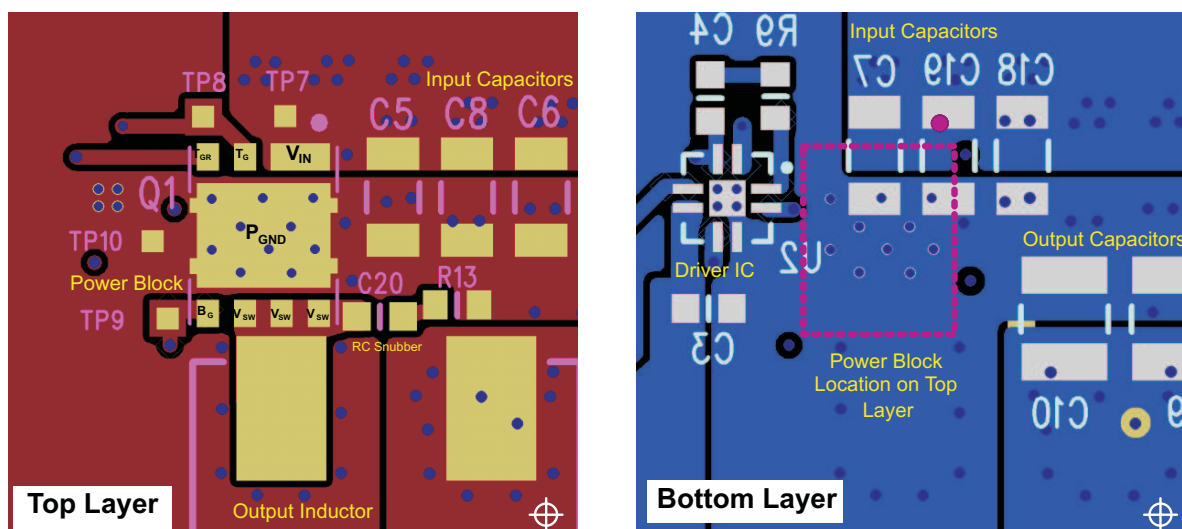

Figure 34. Recommended PCB Layout (Top Down View)
- The placement of the input capacitors relative to the power block's VIN and PGND pins should have the highest priority during the component placement routine. It is critical to minimize these node lengths. As such, ceramic input capacitors need to be placed as close as possible to the VIN and PGND pins (see Figure 34). The example in Figure 34 uses 6 × 10-μF ceramic capacitors (TDK C3216X5R1C106KT or equivalent). Notice there are ceramic capacitors on both sides of the board with an appropriate amount of vias interconnecting both layers. In terms of priority of placement next to the power block, C5, C7, C19, and C8 should follow in order.
- The switching node of the output inductor should be placed relatively close to the power block VSW pins. Minimizing the node length between these two components will reduce the PCB conduction losses and actually reduce the switching noise level. In the event the switch node waveform exhibits ringing that reaches undesirable levels, the use of a boost resistor or RC snubber can be an effective way to reduce the peak ring level. The recommended boost resistor value will range between 1 Ω to 4.7 Ω depending on the output characteristics of driver IC used in conjunction with the power block. The RC snubber values can range from 0.5 Ω to 2.2 Ω for the R and 330 pF to 2200 pF for the C. Refer to Snubber Circuits: Theory, Design and Application (SLUP100) for more details on how to properly tune the RC snubber values. The RC snubber should be placed as close as possible to the Vsw node and PGND see Figure 34.⁽¹⁾
- Use the smallest drill size allowed in the design. The example in Figure 34 uses vias with a 10-mil drill hole and a 16-mil capture pad.